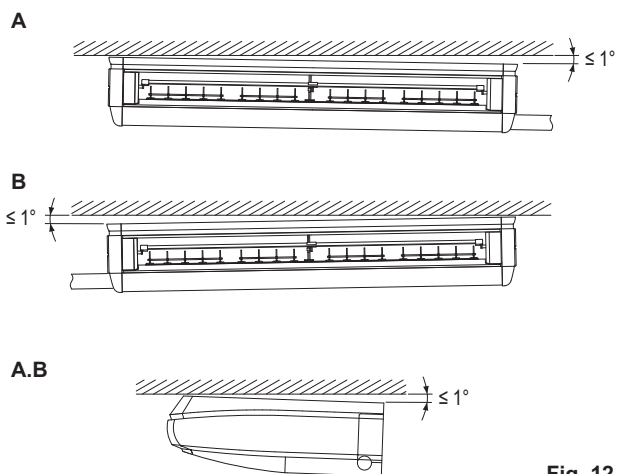

Fig. 12
- (5) When hanging the indoor unit, make sure to use the level to have better drainage and install it horizontally. Also, if it is possible at the installation site, install so that the drain piping side is slightly lower. (Refer to Fig. 12)